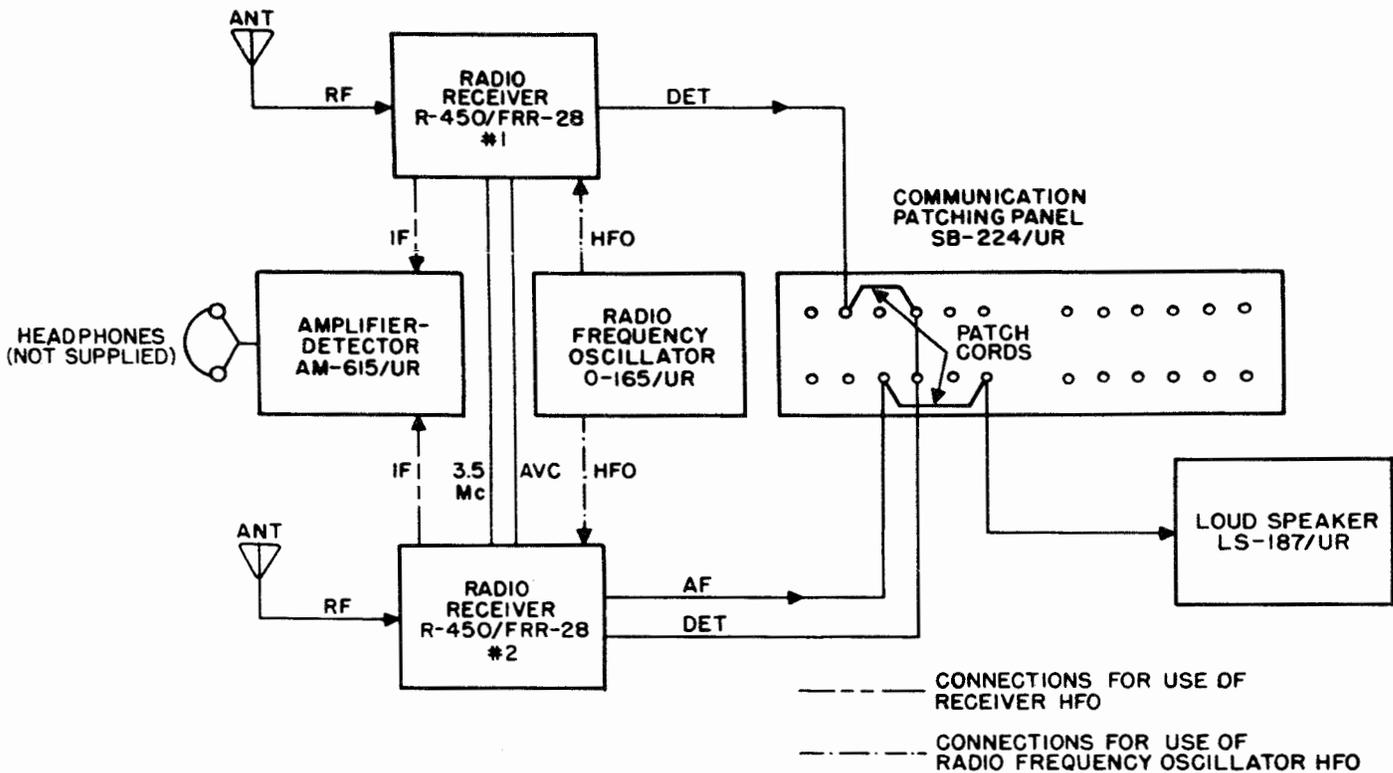

Figure 2-4. Radio Receiving Set AN/FRR-28, Block Diagram, Diversity Reception of Phone Signals
*d. DUAL SPACE OR FREQUENCY DIVERSITY RECEPTION OF RADIOPHONE SIGNALS.* (See figure 2-4.)—The dual space, or frequency diversity, radiophone signals are fed from the antenna to the receivers. For dual space diversity reception, either the internal oscillator of the receivers or RF Oscillator